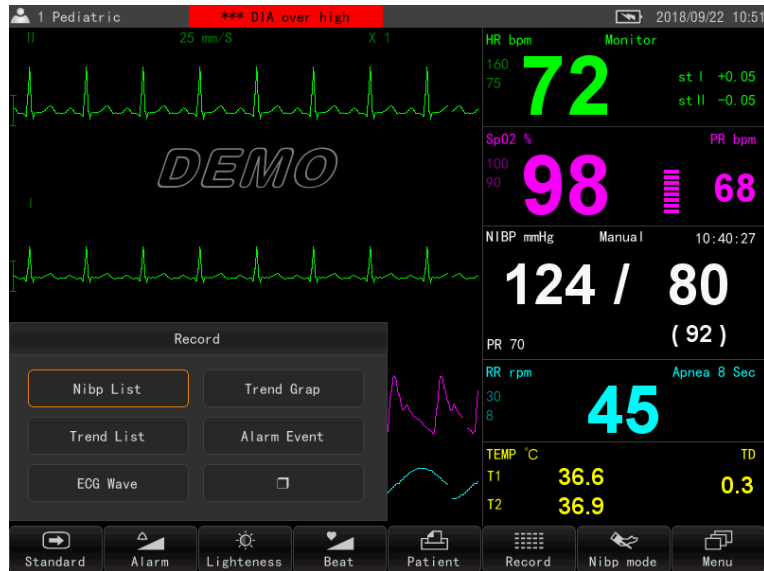

Fig. 4-17
(6) History: You can view information such as test records and alarm records related to monitoring. The history interface is shown in Fig. 4-17.